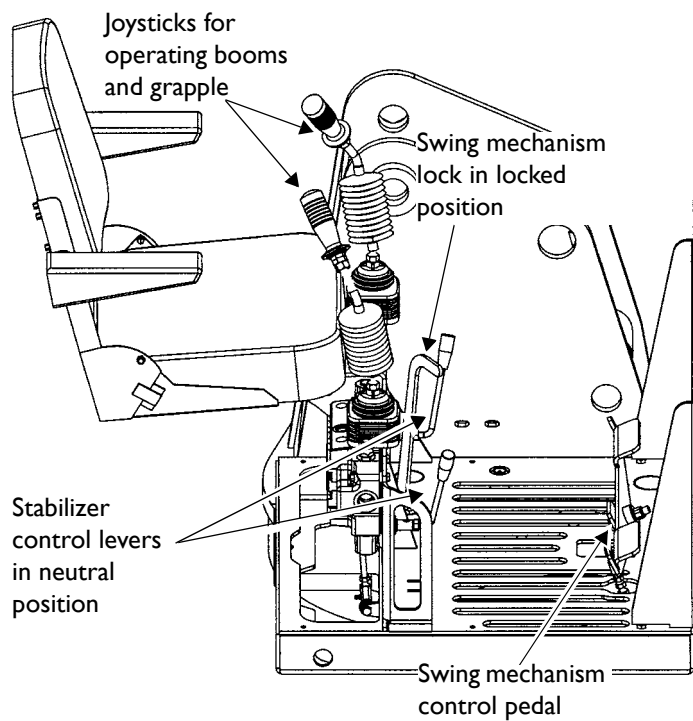

Figure 5
For the location of these controls, refer to *Figure 5* on page 25. The controls are shown in the proper positions for starting up the loader.
The control levers for the stabilizers are located on both sides of the seat below the joysticks (see *Figure 5*, below)
2. Locate the lock handle of the swing mechanism on the left side of the floor. It should be in the locked position down and pointing 30° to the left (as shown in *Figure 5* on page 25).
3. Locate the swing mechanism control pedal at your feet (see *Figure 5* on page 25). Do not use the pedal until the swing mechanism is unlocked.
- The swing mechanism is **locked** by turning it 30° to the right from the forward facing position and releasing it. It snaps down into place (see *Figure 5* on page 25).
4. Lock the swing mechanism by pulling the lock handle forward and releasing it. It will snap down (for the locked position see *Figure 5* on page 25).